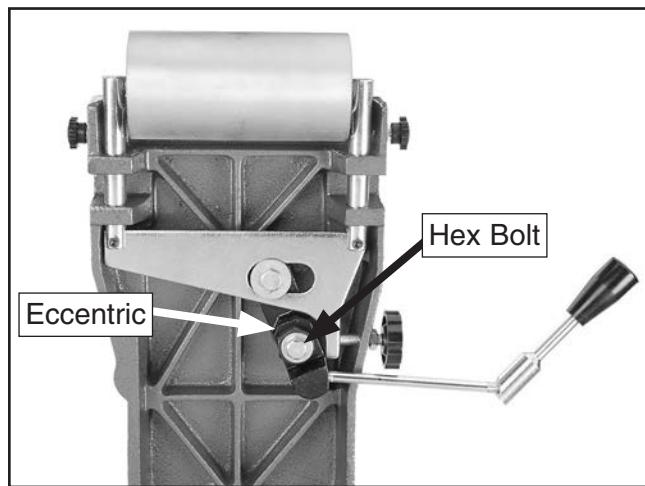

Figure 87. Location of belt tension adjustments (belt removed for clarity).
3. Loosen the hex bolt on the eccentric (see Figure 87).